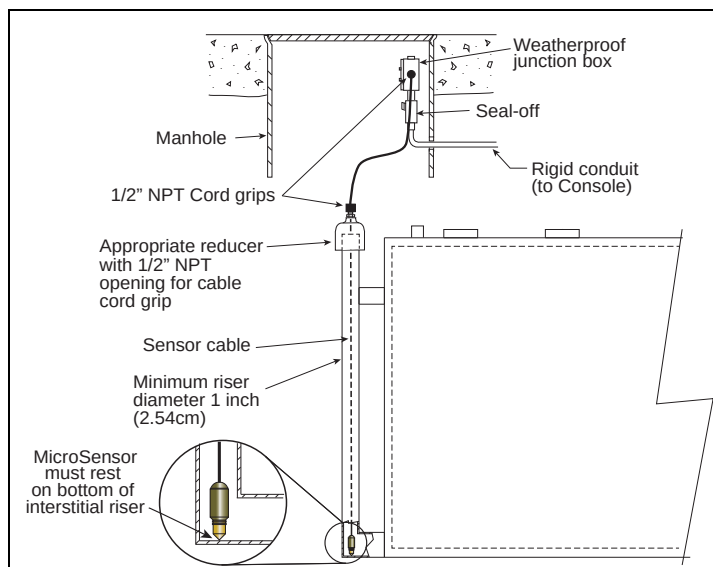
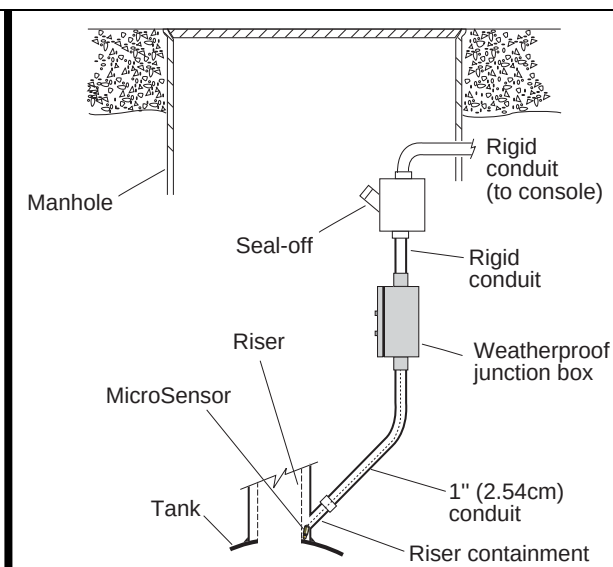

Fig. 10 Example Interstitial MicroSensor Installation - Steel Tank
Fig. 11 Example MicroSensor Installation - Riser
- Installation examples Fig. 10 and Fig. 11.